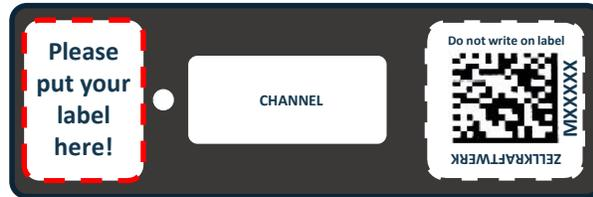

Fig. 2 | Space for additional label on ZellSafe™ chip
1. Apply the patient identification label on the ZellSafe™ chip at the position indicated in Fig. 2 (optional; not included in the kit). Please do not write on the QR-code label.